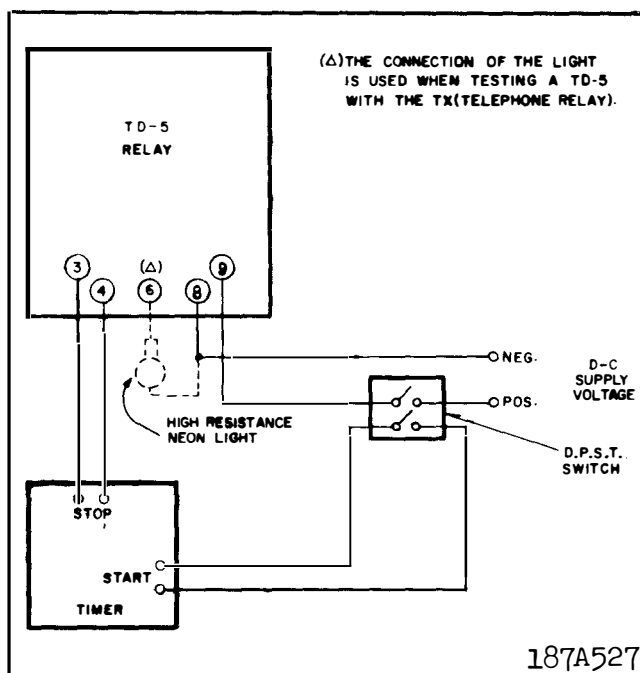

Fig. 4 Test Circuits for Type TD-5 Relay.
2. Check the reference voltage circuit. This is done by measuring the d-c voltage across the silicon power regulator, Z. Connect the d-c voltmeter positive terminal to the rear terminal of RS and the negative terminal to relay terminal 8. Apply rated voltage per the test circuit diagram, Figure 4. The Zener voltage should be between 11.0 and 13.0 volts for 24/32 volt relays, between 21.5 and 24.5 volts for 48/125 volt relays, and between 50 and 58 volts for 250 volt relays.
circuit shown in Figure 4, taken at 25°C. and rated voltage, will be within four milliseconds of its setting for settings of 0.2 seconds or less. For settings above 0.2 seconds, this accuracy will be  $\pm 2\%$ .
A timing check at minimum and maximum settings is recommended to insure that the relay is in proper working order. A recommended test circuit is shown in Figure 4. When testing the TD-5 with a TX telephone relay make the dotted connection as shown in Figure 4. The neon lamp will light if the TX relay is operating properly.